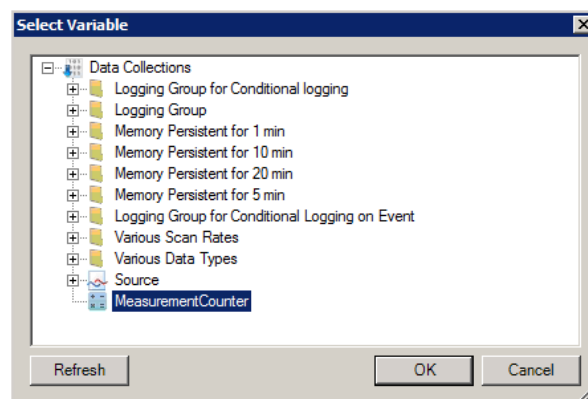

Figure 4 Select the Measurement Counter
3. Click on the ellipsis button next to the Data Point field to open the tag browser as shown in Figure 4.